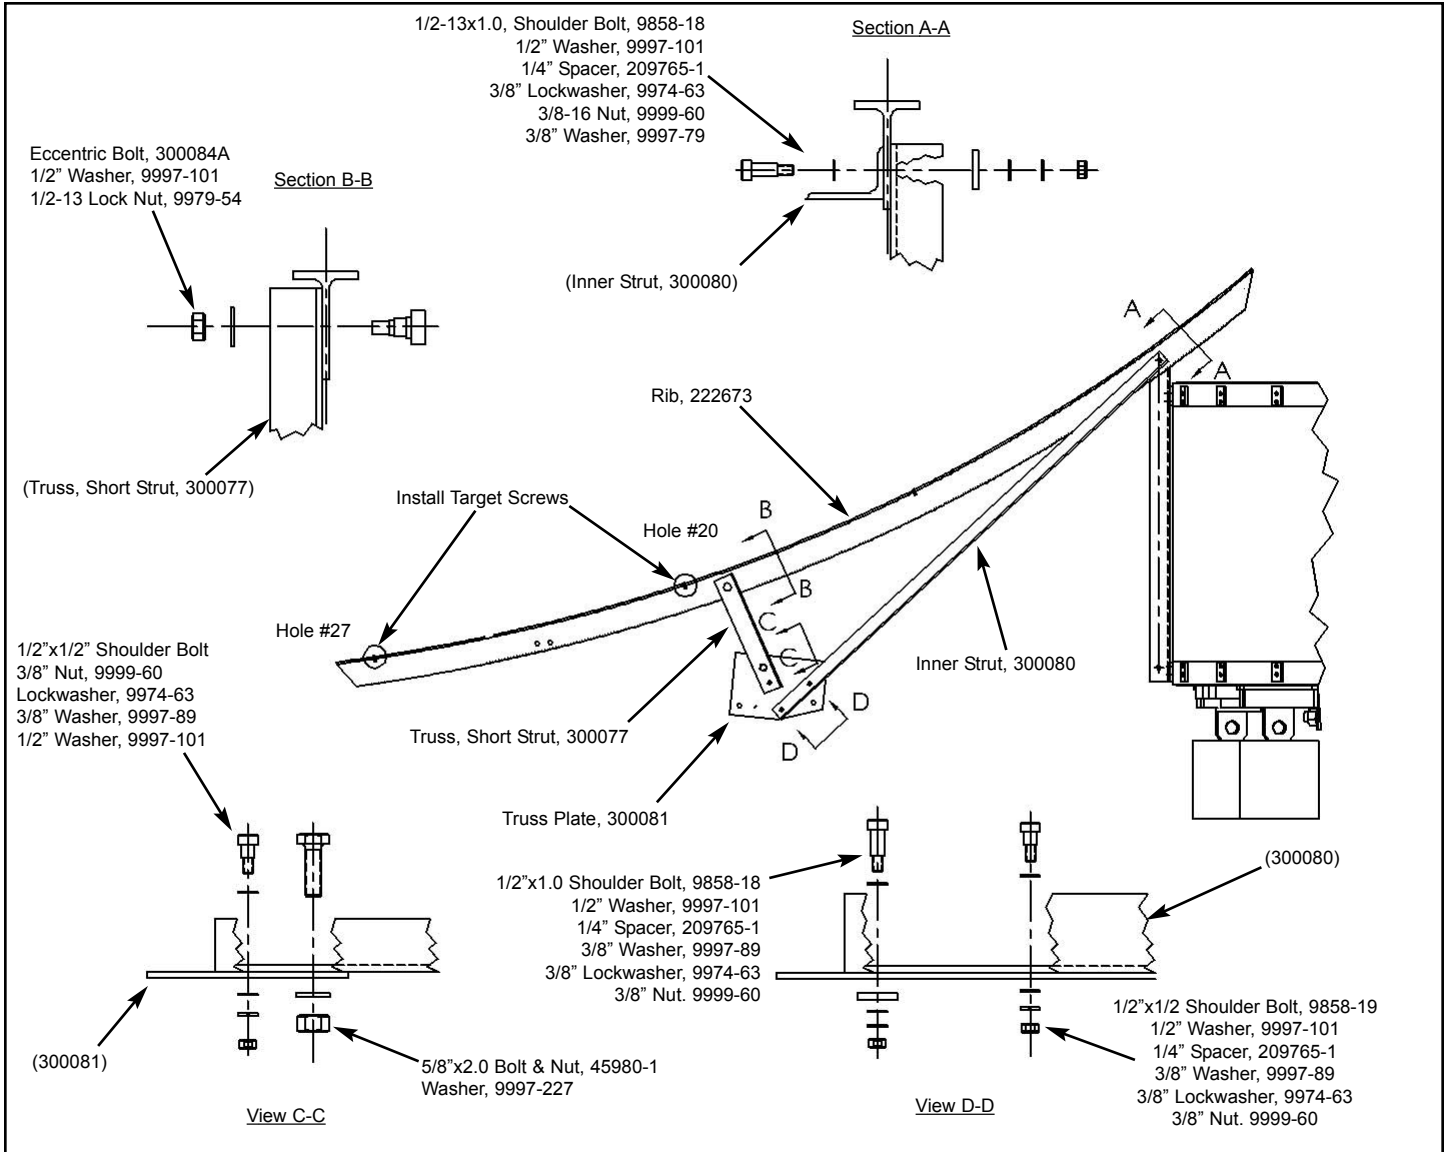
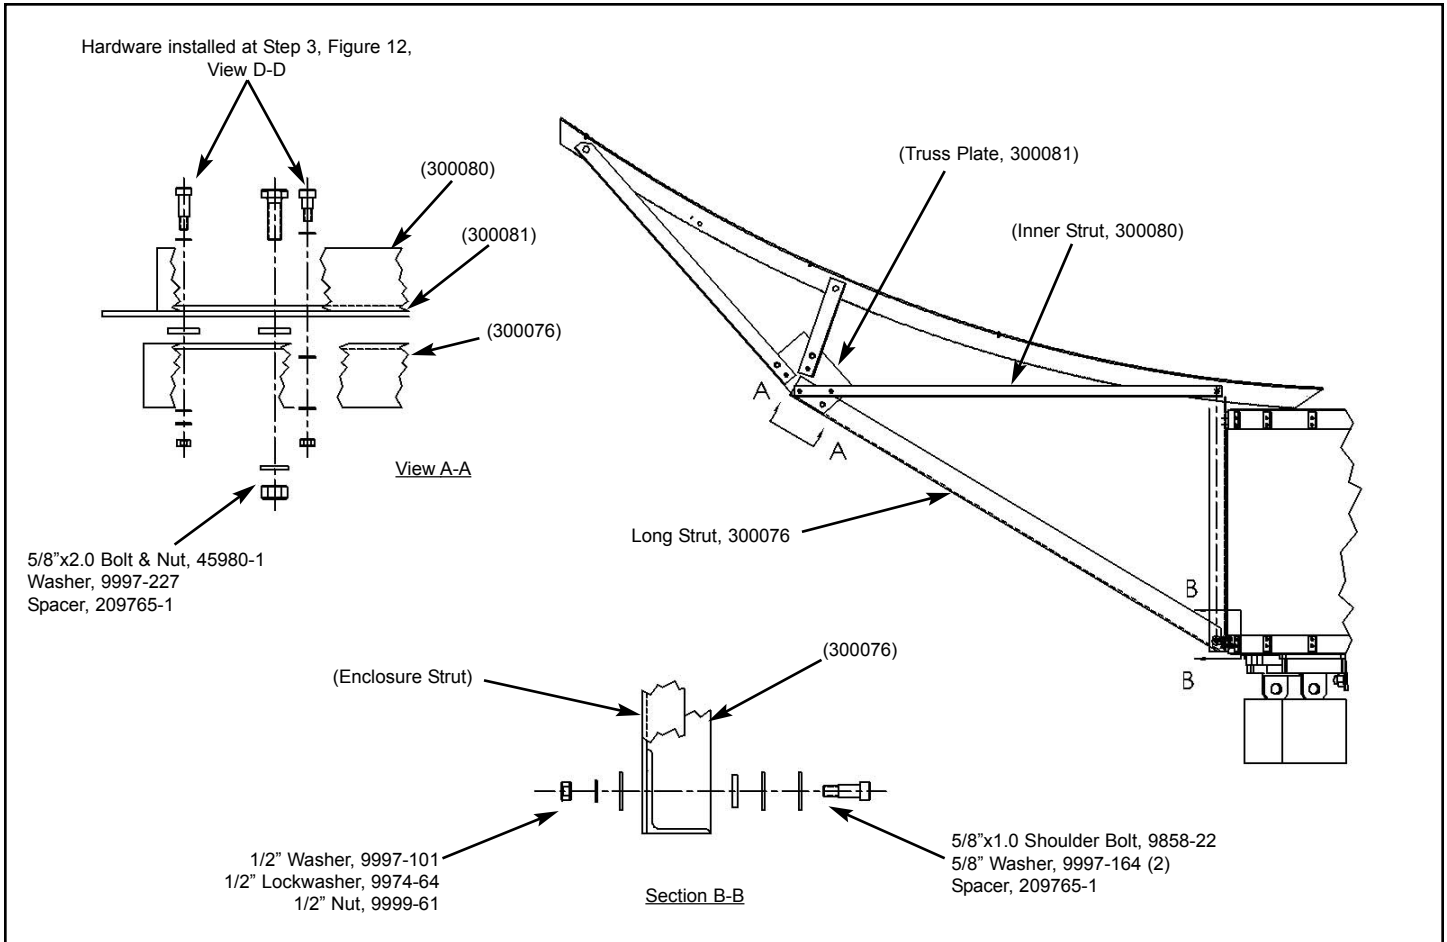

Figure 12
Figure 14
Once all 16 Short Struts are installed and securely fastened, re-install Rear Enclosure Panel. Carefully rotate the enclosure right-side-up as shown in Figure 12. Place temporary wood blocks under each of the enclosure's three support pads with the additional block positioned in between.
Install Ribs (222673) to enclosure strut as shown in Figure 12. Attach Target Screws supplied from Alignment Kit (223711) as shown and tighten. Leave all other hardware loose.
Step 5 Lift truss/rib assembly and install Long Strut as shown in Figure 14. Note: the Long Strut is installed on the opposite side of the Truss Plate. Refer to Figure 12, View D-D for previously installed hardware for Inner Strut to Truss Plate connection. Leave hardware loose.